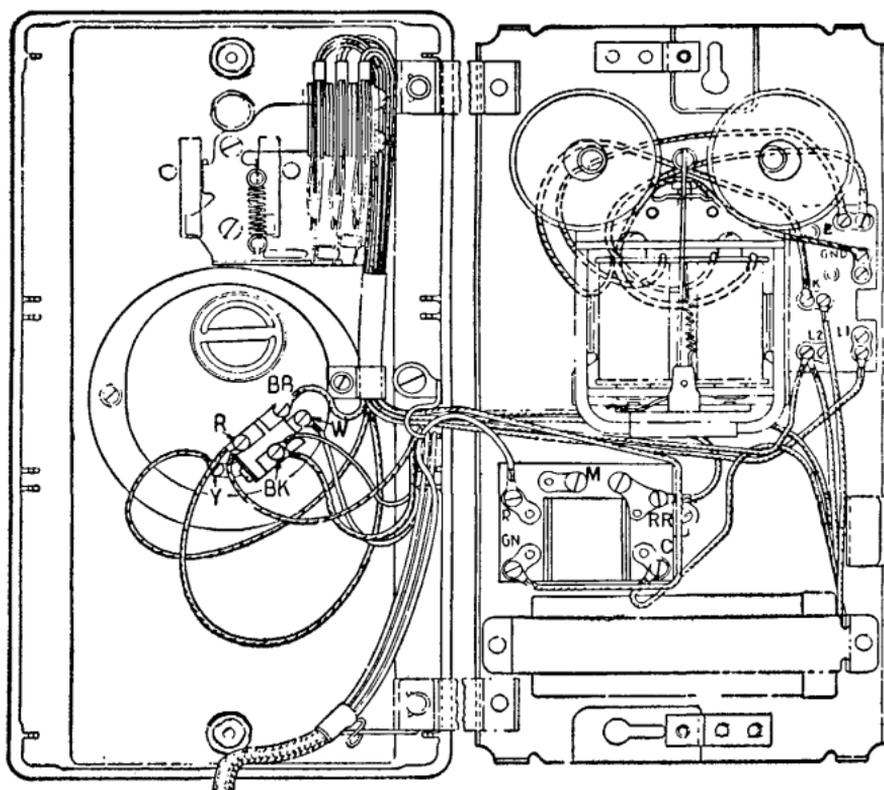

Fig. 2—354-Type Telephone Set—Internal View
1.01 This section gives general information relating to the description and installation of the 354, 356 and 357-type telephone sets. It is reissued to include information regarding the 6-type dial, to make minor changes in Fig. 2 and include revision of the 172A-type backboard.